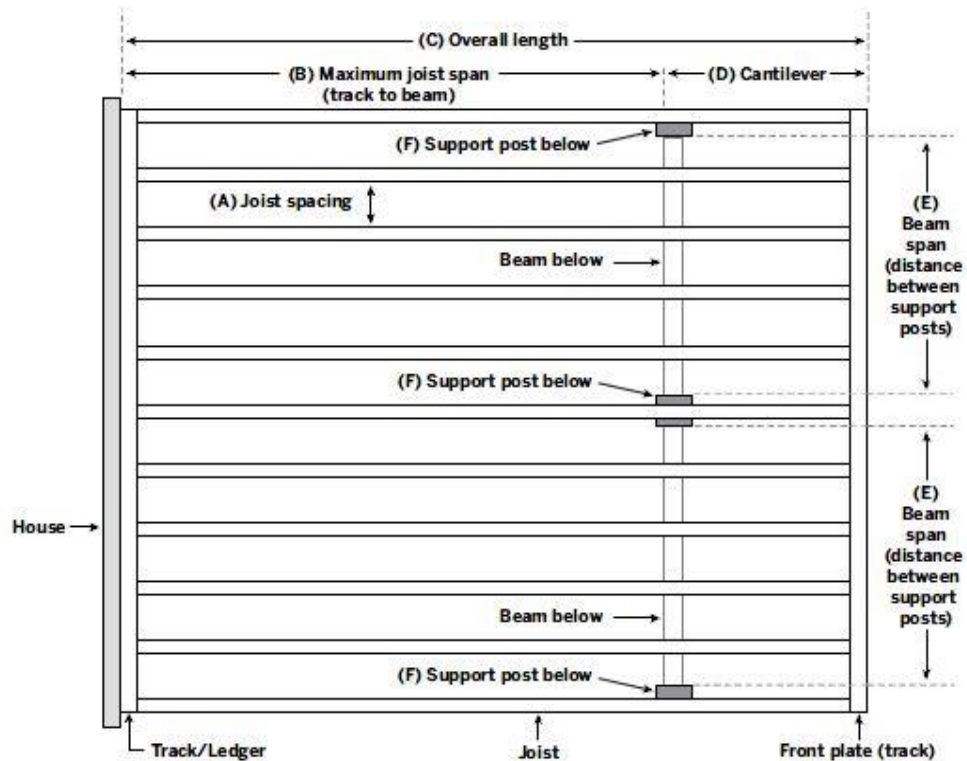

Figure 1 – Single Beam Plan
4.1 Allowable maximum spans for 1-5/8 inch joists, single box beams and double box beams are given in Tables 1 thru 6 with respect to joist spacing of 12 or 16 inches. See Figures 1 and 2 for definition of joist span, cantilever length and box beam span.